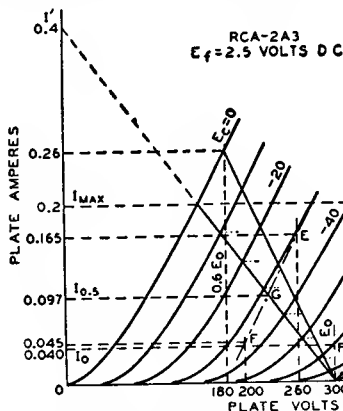
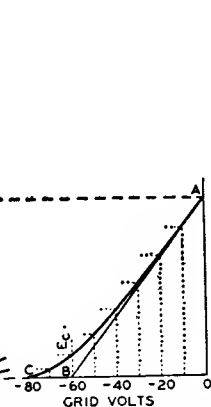

Fig. 24—Graphic calculations for class AB_1 amplifier using the 2A3 power triode.
Fig. 25—Instantaneous curve for class AB_1 amplifier.
point D in Fig. 24. Its position is not affected by the operating grid bias provided the plate-to-plate load resistance remains constant.
In general, for any load line through point D, Fig. 24, the plate-to-plate load resistance in ohms of a push-pull amplifier is $R_{pp} = 4E_o/I'$, where I' is the plate-current value in amperes at which the load line as projected intersects the plate-current axis, and E_o is in volts. This formula is another form of the one given under push-pull class A amplifiers, $R_{pp} = 4(E_o - 0.6E_o)/I_{max}$, but is more general. Power output = $(I_{max}/\sqrt{2})^2 \times R_{pp}/4$, where I_{max} is the peak plate current at zero grid volts for the load chosen. This formula simplified is $(I_{max})^2 \times R_{pp}/8$. The maximum-signal average plate current is $2I_{max}/\pi$ or $0.636 I_{max}$; the maximum-signal average power input is $0.636 I_{max} \times E_o$.
Example: Fig. 24 illustrates the application of this method to a pair of 2A3's operated at $E_o = 300$ volts. Each tube has a plate-dissipation rating of 15 watts. The method is to erect a vertical line at 0.6 E_o , or at 180 volts, which intersects the $E_c = 0$ curve at the point $I_{max} = 0.26$ ampere. Using the simplified formulas, the following values are obtained:
The operating bias and the zero-signal plate current may then be found by use of a curve which is derived from the plate family and the load line. Fig. 25 is a curve of instantaneous values of plate current and dc grid-bias voltages taken from Fig. 24. Values of grid bias are read from each of the grid-bias curves of Fig. 24 along the load line and are transferred to Fig. 25 to produce the curved line from A to C. A tangent to this curve, starting at A, is drawn to intersect the grid-voltage abscissa. The point of intersection, B, is the operating grid bias for fixed-bias operation. In the example, the bias is -60 volts. Refer back to the plate family at the operating conditions of plate volts = 300 and grid bias = -60 volts; the zero-signal plate current per tube is seen to be 0.04 ampere.
tortion in a class AB_1 amplifier using triodes is very small and is largely canceled by virtue of the push-pull connection. Third-harmonic distortion, however, which may be larger than permissible, can be found by means of composite characteristic curves. A complete family of curves can be plotted, but for the present purpose only the one corresponding to a grid bias of one-half the peak grid-voltage swing is needed. In the example, the peak grid voltage per tube is 60 volts, and the half value is 30 volts. The composite curve, since it is nearly a straight line, can be constructed with only two points (see Fig. 24). These two points are obtained from deviations above and below the operating grid and plate voltages.
These steps provide points at 260 volts and 0.165 ampere (E), and at 200 volts and 0.045 ampere (F). A straight line through these points is the composite curve for a bias of -30 volts, shown as a long-short dash line in Fig. 24. At the intersection of the composite curve and the load line, G, the instantaneous composite plate current at the point of one-half the peak signal swing is determined. This current value, designated $I_{0.5}$ and the peak plate current, I_{max} , are used in the following formula